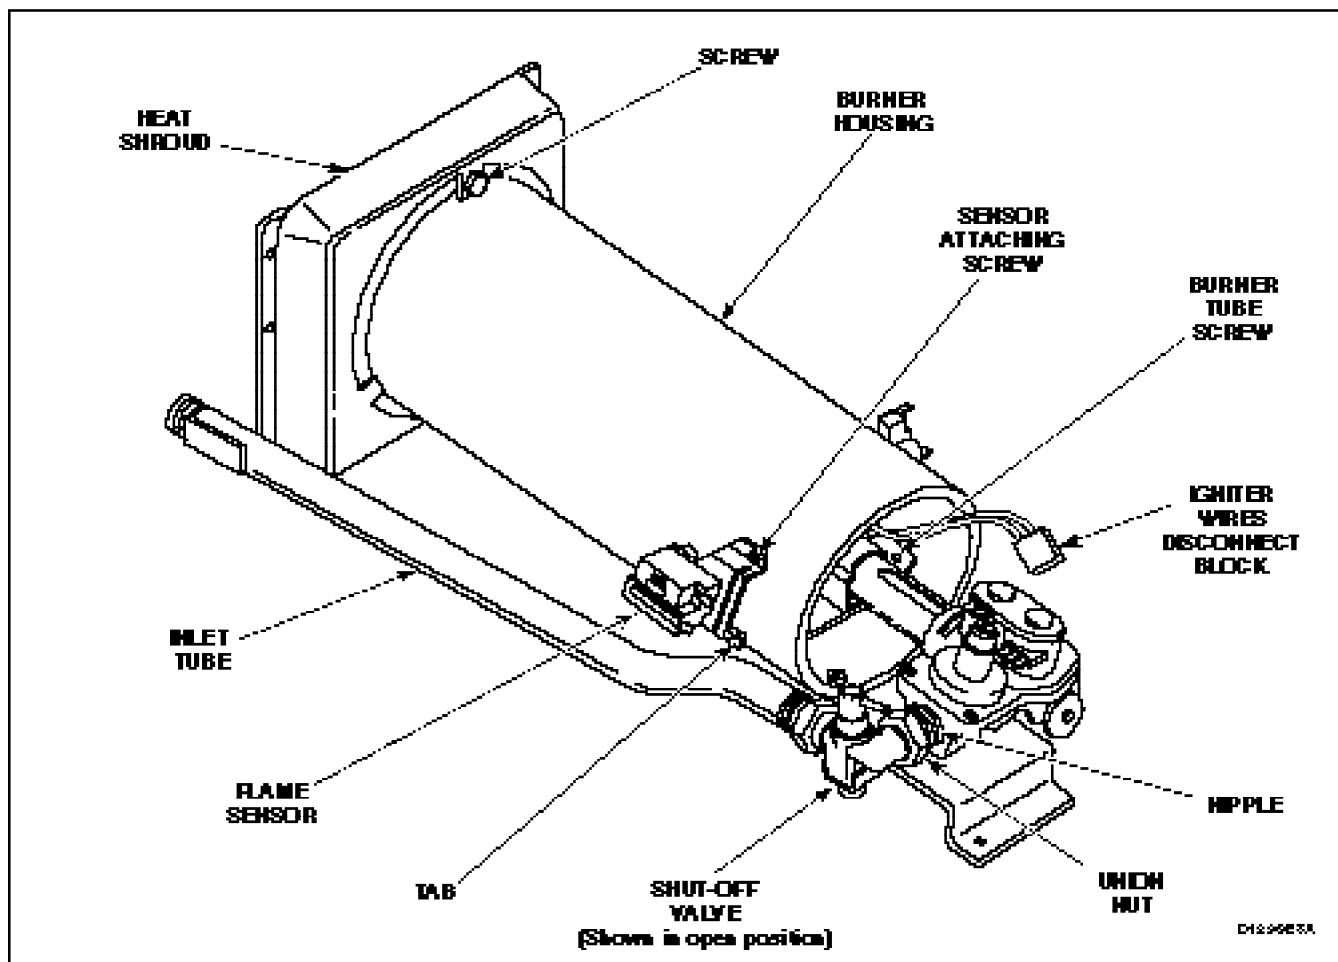
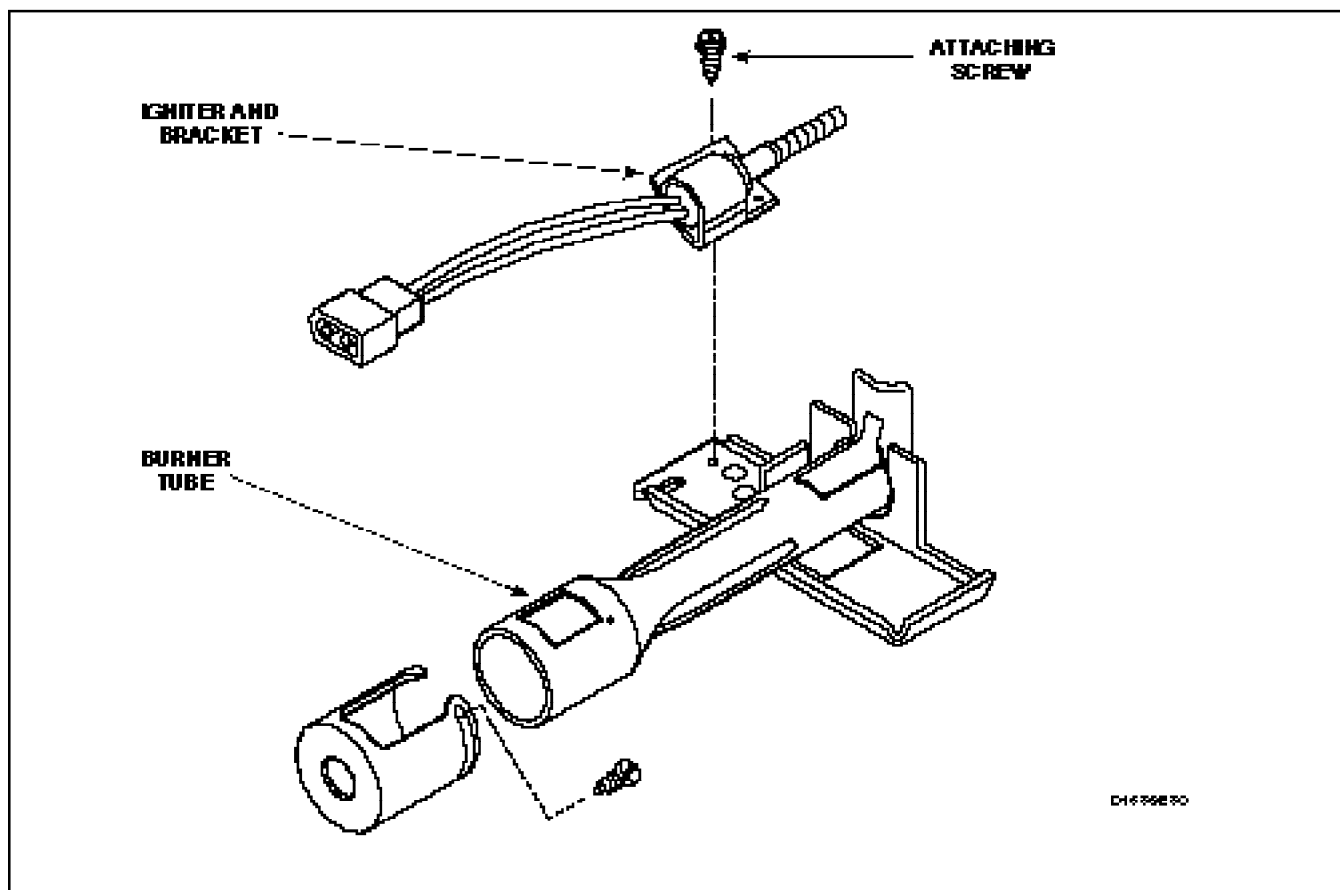

Figure 24
Figure 25
- (2) Gently lower the access panel to disengage guide lugs from bottom edge of front panel.
- (3) Close gas shut-off valve, disconnect igniter wires at disconnect blocks, sensor wires from flame sensor terminals, and wires from gas valve coils at the quick disconnect blocks, *Figure 24*.
- (4) Disconnect gas shut-off valve from gas valve at the union nut, *Figure 24*.
- (5) Remove three screws holding valve and mounting bracket to base, *Figure 24*.
- (6) Lift gas valve and mounting bracket from base, *Figure 24*.
- (2) Gently move burner tube toward rear of dryer to disengage tab from slot on left side of burner housing, *Figure 24*.
- (3) Carefully rotate burner tube and igniter counterclockwise so tab is at 8 o'clock position.
- (4) Move air shutter end of burner tube slightly to right and CAREFULLY remove burner tube and igniter assembly out through front of dryer.
- (5) Remove screw holding igniter and bracket to burner tube and remove igniter and bracket, *Figure 25*.
c. Flame Sensor, Figure 24.
- (3) Remove wires from sensor terminals, *Figure 24*.
- (4) Remove screw holding sensor to burner housing, *Figure 24*.
- Disconnect igniter wires at disconnect blocks, sensor wires from flame sensor terminals, and wires from gas valve coils at the quick disconnect blocks, *Figure 24*.
- Gently move burner tube toward rear of dryer to disengage tab from slot on left side of burner housing, *Figure 24*.
- Remove screw holding burner housing to heat shroud, *Figure 24*.